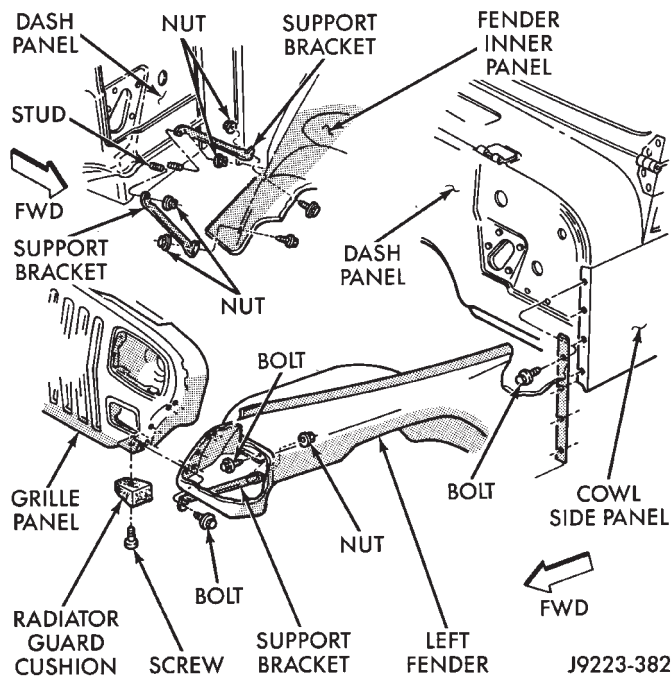
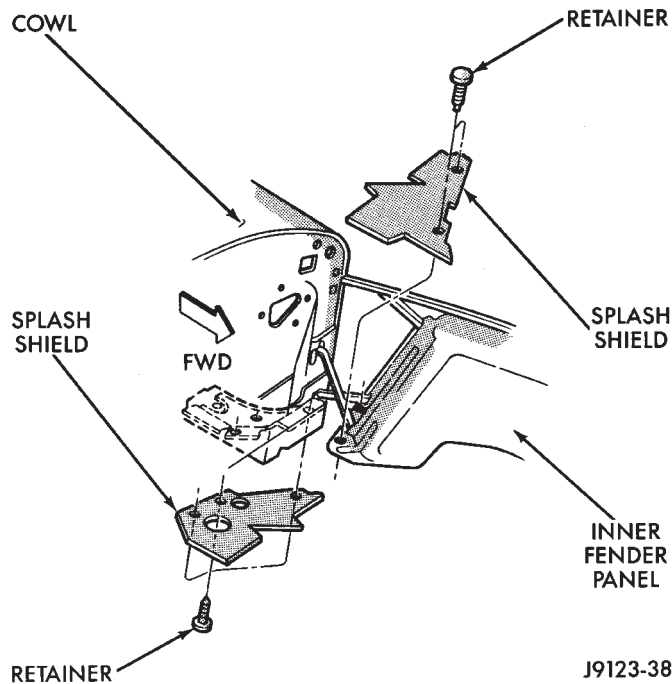

Fig. 33 Fender Front and Rear Attaching Bolts/Nuts
Fig. 34 Fender Splash Shields
- (7) Remove the fender front attaching bolts/nuts and brackets from the grille panel (Fig. 33).
- (8) Remove the splash shields from the fender (Fig. 34).
- (9) Remove the bolts that attach the fender and rear supports to the cowl panel (Fig. 33).
- (10) Pull the fender outward and lift it from the vehicle.
(1) Position the fender and rear support brackets at the vehicle body and install the attaching washers and bolts (Fig. 33). Tighten the bolts and nuts to 18 N·m (156 in-lbs) torque.
(2) Install the fender front attaching bolts/nuts. Tighten the bolts and nuts to 18 N·m (156 in-lbs) torque.
(3) Install the splash shields with the serrated retainers (Fig. 34).